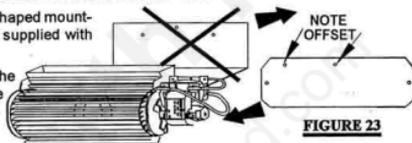

FIGURE 23
2. Remove the blower from the "L" shaped mounting bracket and attach to the bracket supplied with the fireplace. **FIGURE 23**